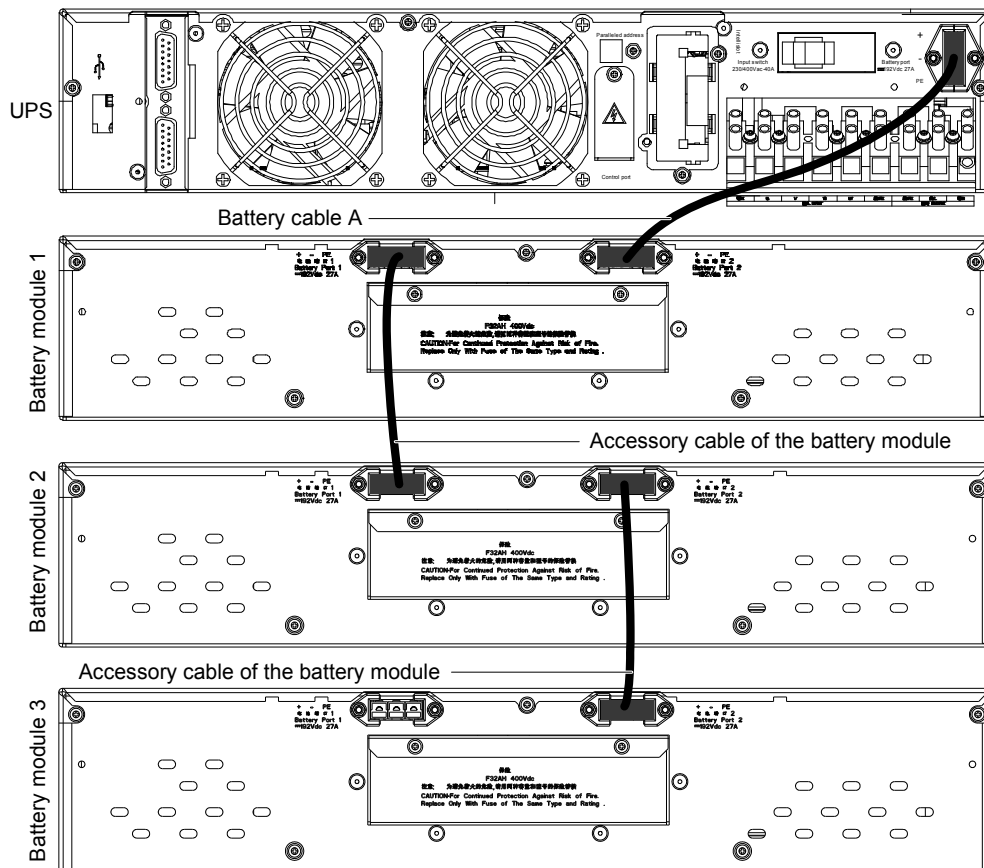

Figure 2-31 Cable connection for the long back-up UPS and the battery module
3. Press the ON/SILENCE key for more than one second, and wait for thirty seconds, the UPS will enter the inverter standby mode automatically, at this time, the inverter indicator blinks. After the UPS has output, the inverter indicator will turn on, as shown in Figure 2-31.